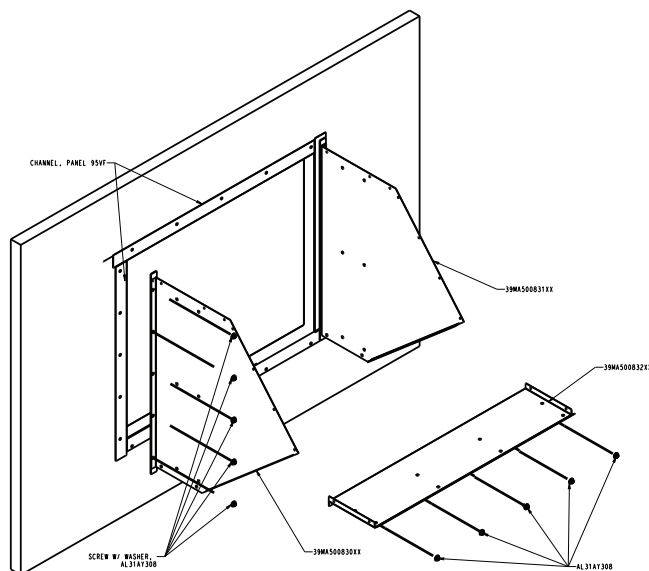

Fig. 78 — Attaching the Side Panels and Bottom Panel
7. First, attach side panels to return/exhaust fan opening using the 1/4 in.-14 x 3/4 in. sheet metal screws (with neoprene washers.) Then attach bottom panel using similar sheet metal screws. See Fig. 78.